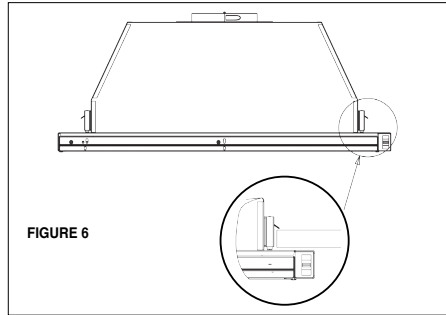

FIGURE 6
2. The rangehood mounts to the cabinet by two spring loaded brackets, one on each side of the rangehood (**FIGURE 6**). Lift the rangehood into the cutout opening in the cabinet. Be careful not to damage the cabinet, rangehood or other appliances.